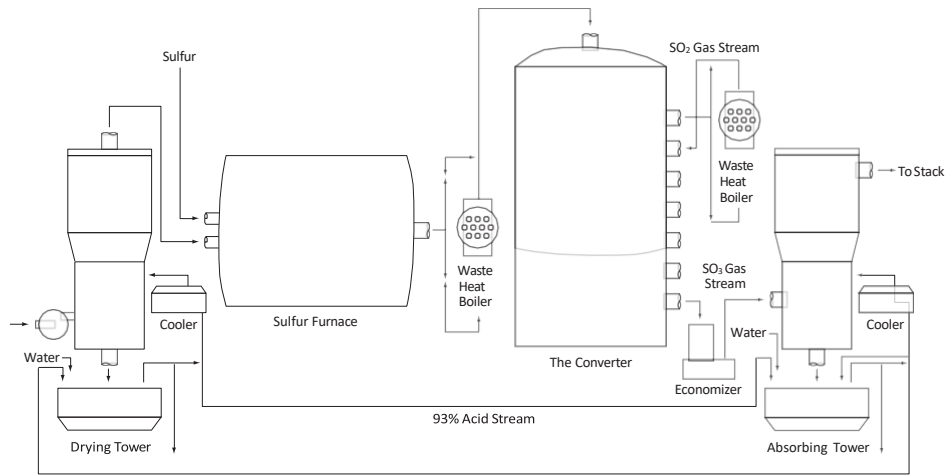
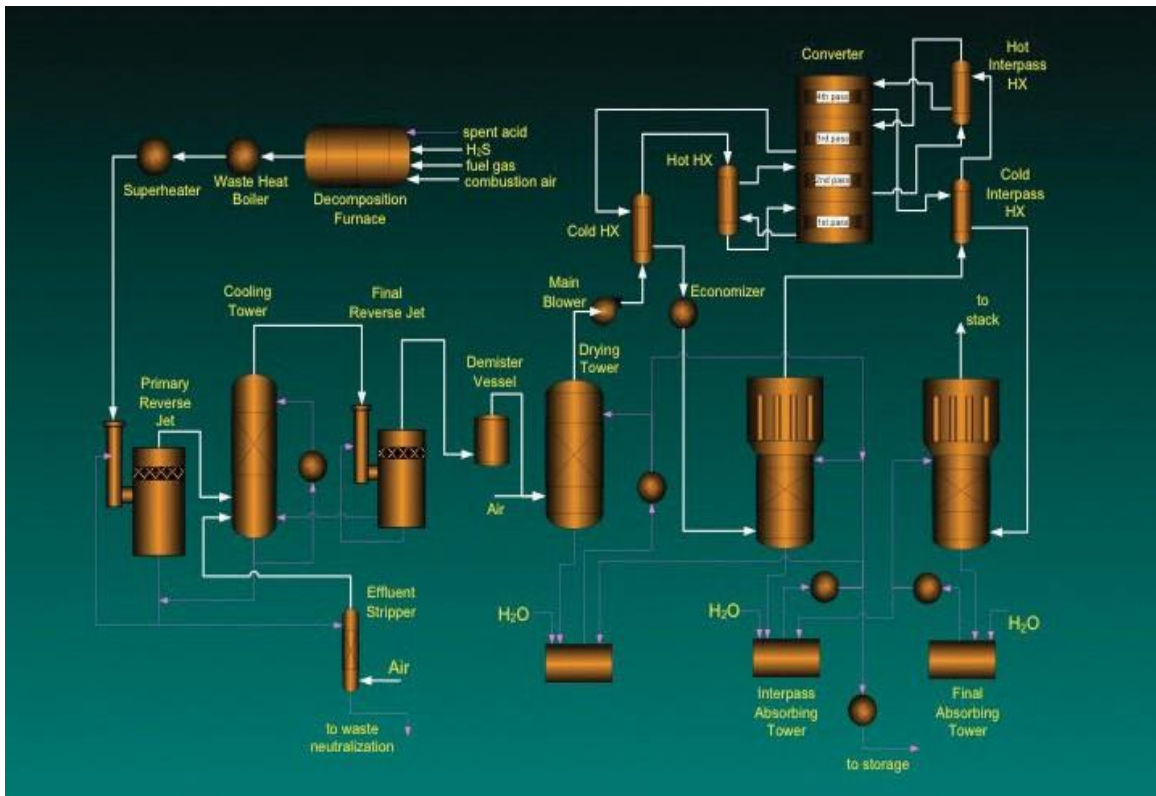

Figure 1
Figure 2
Figure 1 below is a typical flow diagram of the contact process for a sulfur-burning plant for sulfuric acid. As you can see, sulfur and air are brought in and burned to make sulfur dioxide (SO2). The SO2 goes through a series of gas
Figure 2. In this process, spent sulfuric acid is combusted in air to produce sulfur dioxide (SO2). The SO2 is cooled and cleaned through a series of scrubbers, reheated, and sent to a
**Fresh Sulfuric Acid** (H2SO4), Molecular Weight ( 98.08) is a heavy, oily, strong, liquid mineral acid, clear and colorless in pure form. Technical grades may be turbid and off-white in appearance. Grades below 100% have a very low vapor pressure at room temperature. Pure sulfuric acid does not have good "warning" properties. Visually, pure sulfuric acid looks just like water, and it has no odor or fumes. **Figure 1** (on page 6) shows the freezing and boiling points. Figure 2 (on the page following Figure 2) is the thermal properties of sulfuric acid,